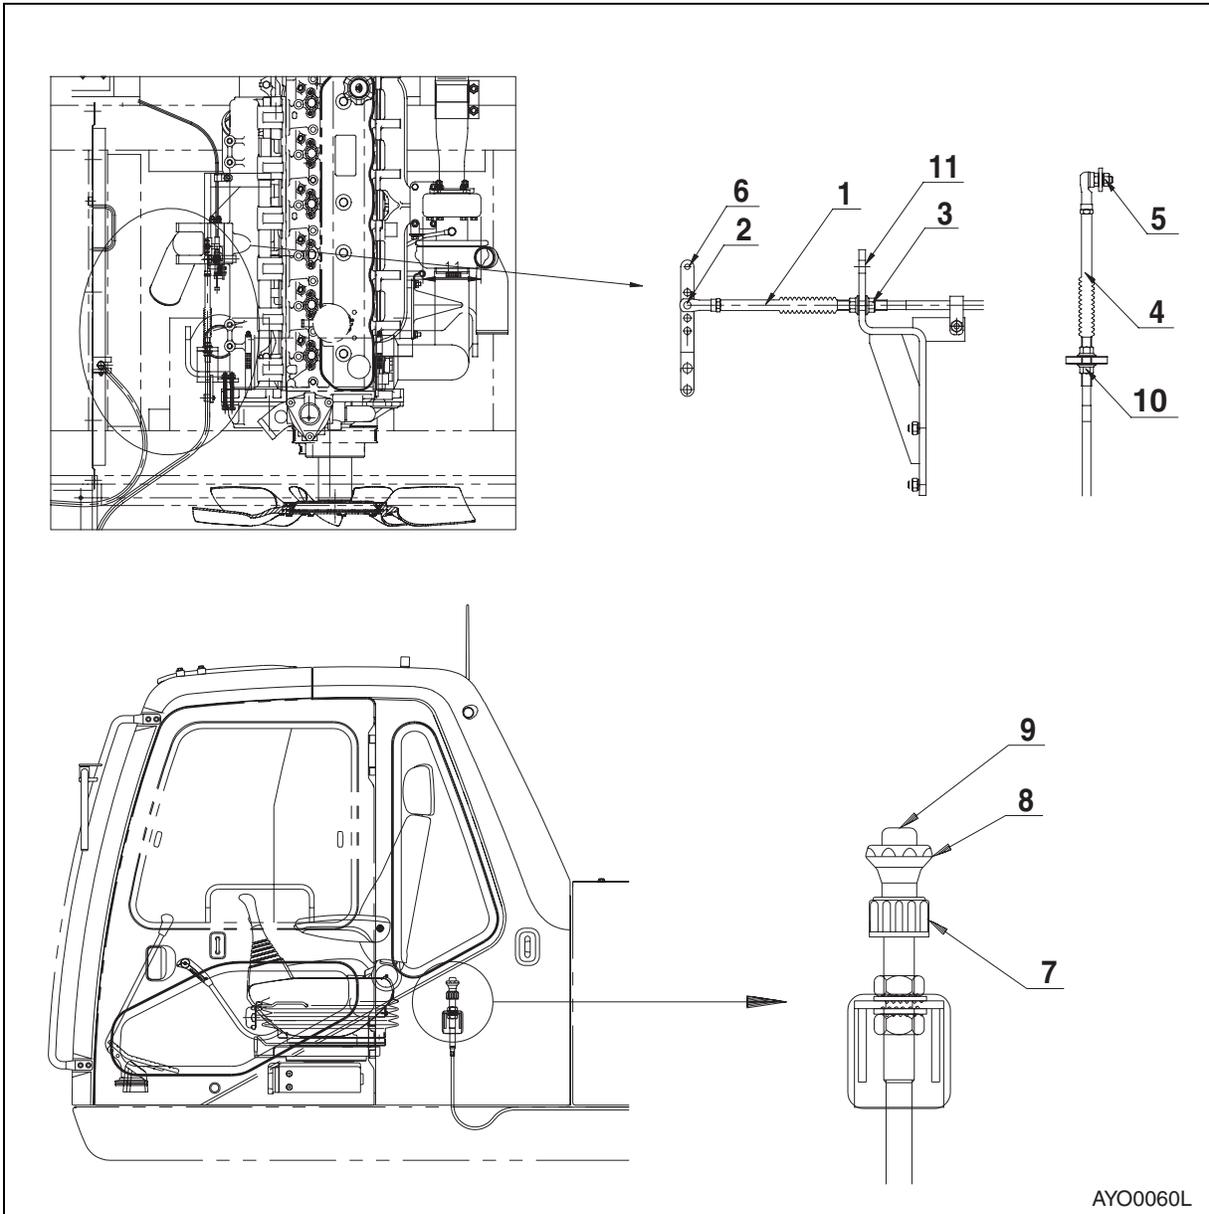

Figure 44
7. Disconnect control cable (1, Figure 44) by removing nut and spring washer (2) and loosening the nuts (3) holding cable to bracket.
8. Remove nut and spring washer (5, Figure 44) from manual engine control cable (4) and loosen the nuts (10) holding cable to bracket. Attach manual engine control cable ball joint to hole (6) by using nut and spring washer (5) and attach it to slot (11) by tightening the nuts (10).
11. On the rear of left control stand in cabin is a vernier caliper throttle control. The throttle control is a push/pull and/or screw type assembly. The locking collar (7, Figure 44) at base of mechanism must be turned to the released position before the throttle can be adjusted. Quick adjustment of engine speed can be made by turning the locking collar to the "RELEASED" position and "DEPRESSING" the button (9) (in center of knob (8)). Pulling the knob "OUT" increases rpm's, or pushing it "IN" decreases rpm's. Fine adjustment of engine speed can be made by turning the knob. Turn knob counterclockwise to increase engine speed and clockwise to decrease engine speed. Once the desired rpm is obtained, turn the locking collar (7) to the locked position.